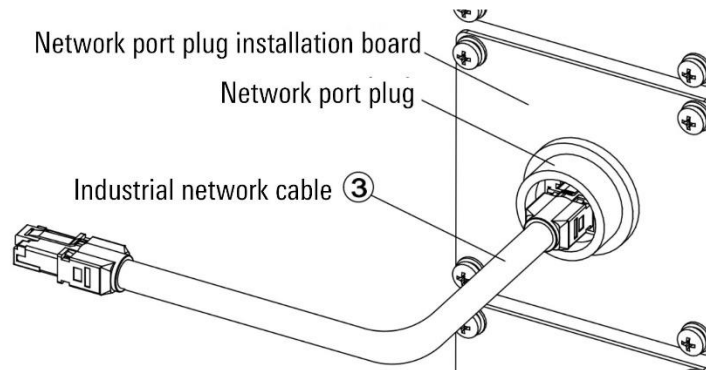

Figure 13-6 Diagram of industrial network cable connecting to network port plug
Step3. One end of the ③ industrial network cable is connected to the network port plug, and the other end is connected to the user's own application module. Refer to Figure 13-6.